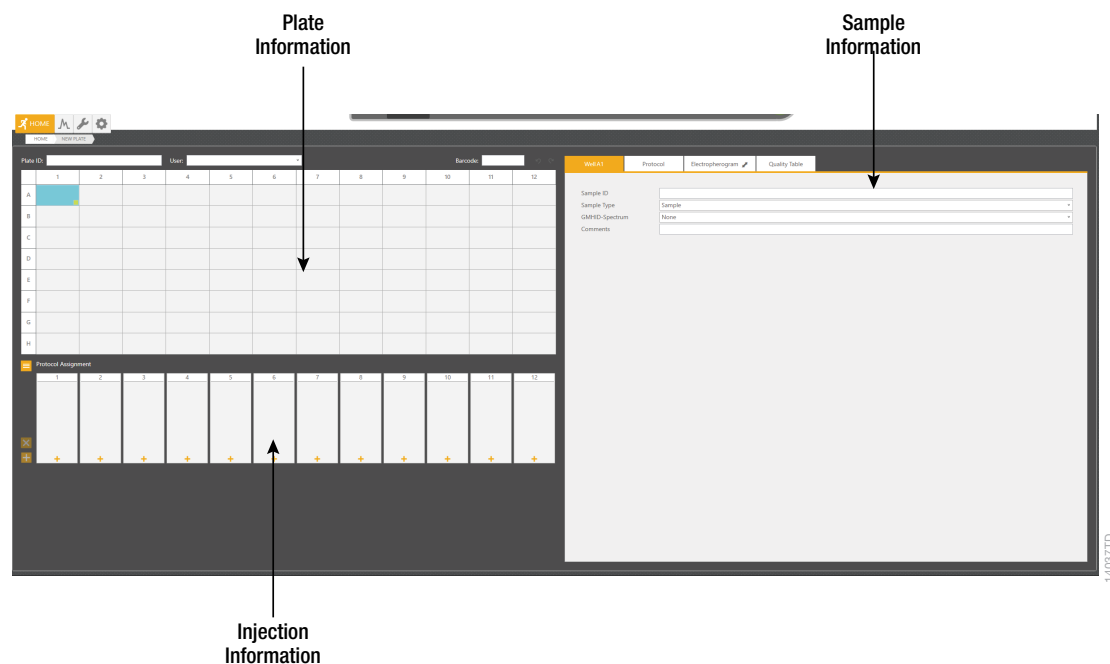

Figure 7. 'Plate' screen.
1. Select **New Plate** from the 'Home' screen. This will open a blank 'Plate' screen that is divided into three sections: Plate Information, Sample Information and Injection Information (Figure 7).
Alternatively, enter Sample IDs in the 'Sample ID' field of the 'Sample Information' section (Figure 7).